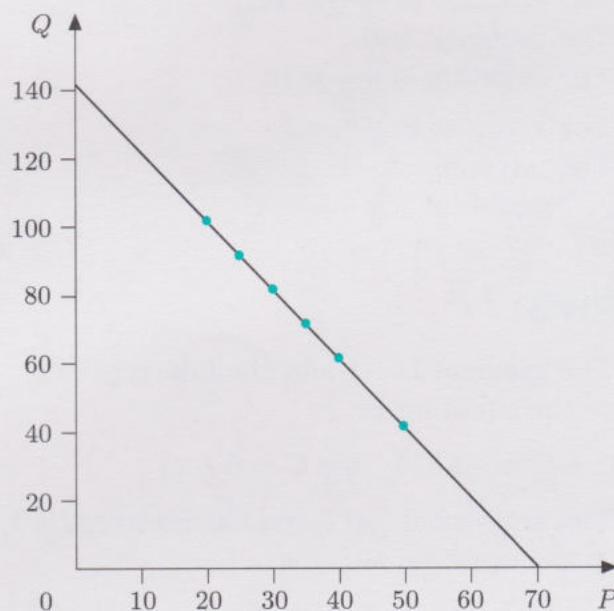

Figure 46
- (a) Assume that there is a linear relationship between quantity sold and price, plot the points on a graph and draw a straight line through them, as in Figure 46.